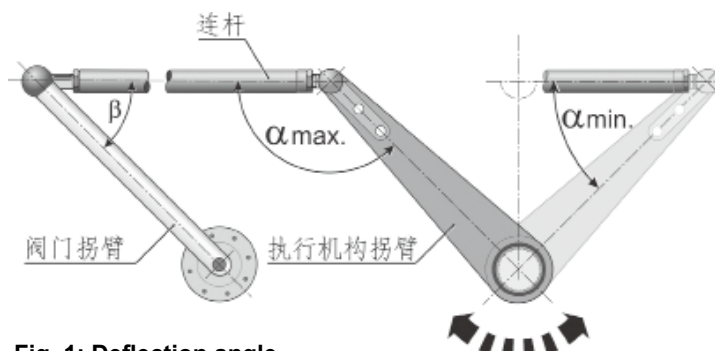

Fig. 1: Deflection angle
- Angle β (refer to fig. 1) must be indicated by the valve manufacturer.